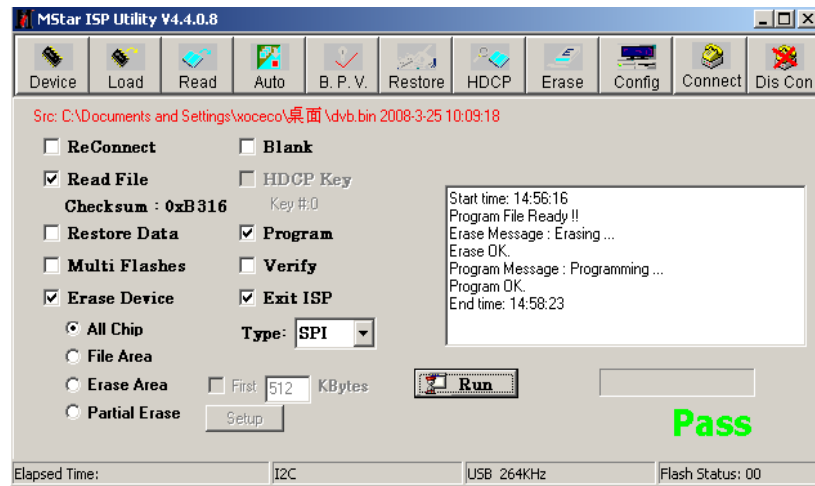

Fig5
(6) If the process of writing succeeds, it will display “Pass” near “Run” as shown in fig5.